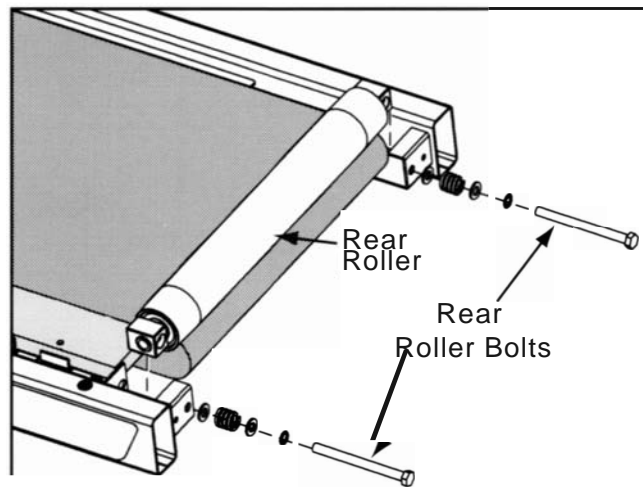

Figure 3
- A. Loosen and remove the two rear roller bolts. See Figure 3. Loosen each bolt evenly, making sure not to loosen either bolt too many turns before moving to the other bolt. Remove the bolts, springs, nuts and washers and set them aside.